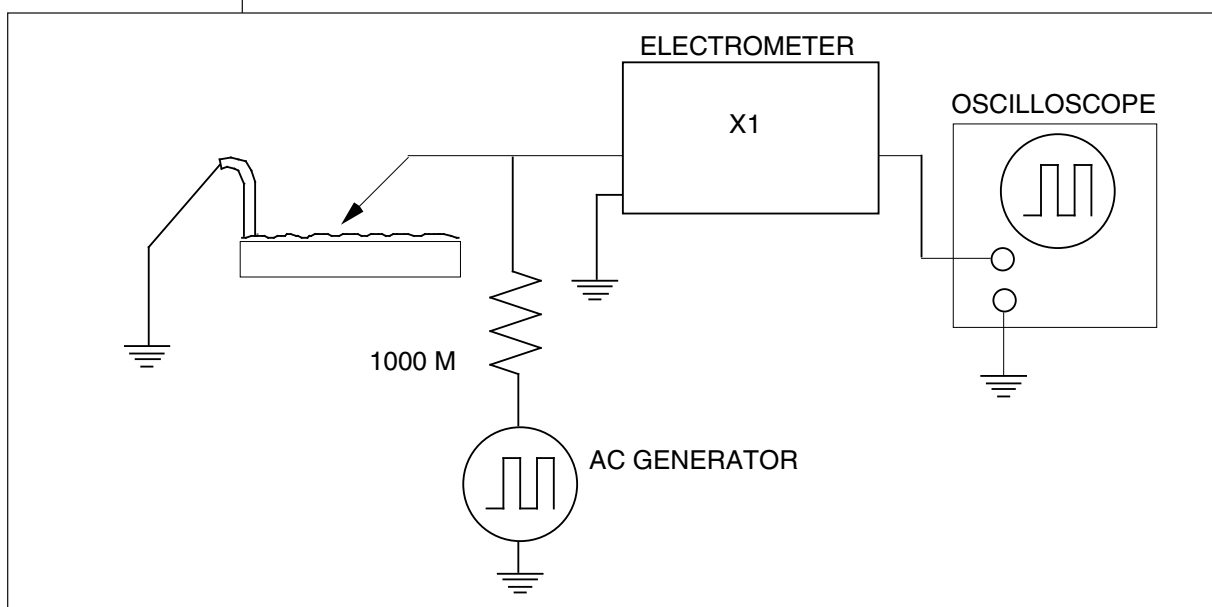

Figure 3
3. High Input Impedance Electrometer/Follower. The circuit shown in figure 3 illustrates a simple method for electrode resistance measurement. A high impedance electrometer/follower and oscilloscope are required. If the amplitude of the AC voltage is adjusted such that the peak-to-peak voltage across a dummy electrode of 20 MW is 100 mV peak-to-peak, then the measuring system will be calibrated to read 5 mV/MW. The same precautions must be taken with regard to line voltage induction that is normally used for intracellular recording, since a large amount of line frequency interference will obscure the resistance signal.